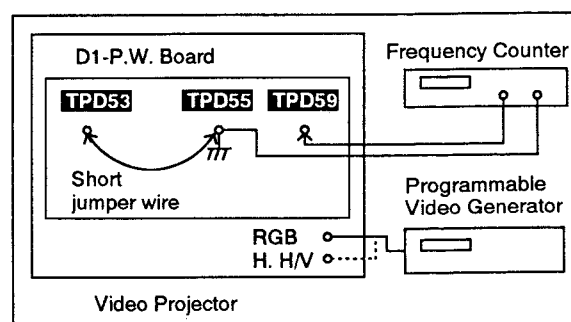

Fig. 9
17. Input a H.V. composite Sync. to RGB H. H/V input terminal. (See Fig. 9)